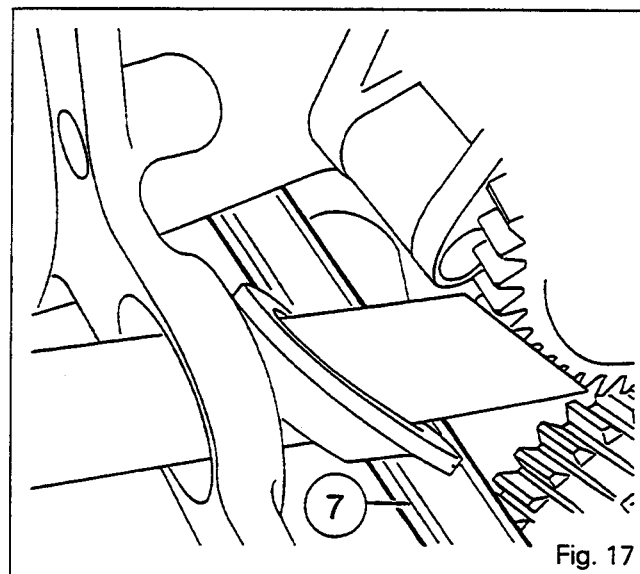

Fig. 17
**Note: Slide the selector rail under the reinforcement on the rear axle housing (Fig. 17).**
68. Remove the slider (18), if necessary.